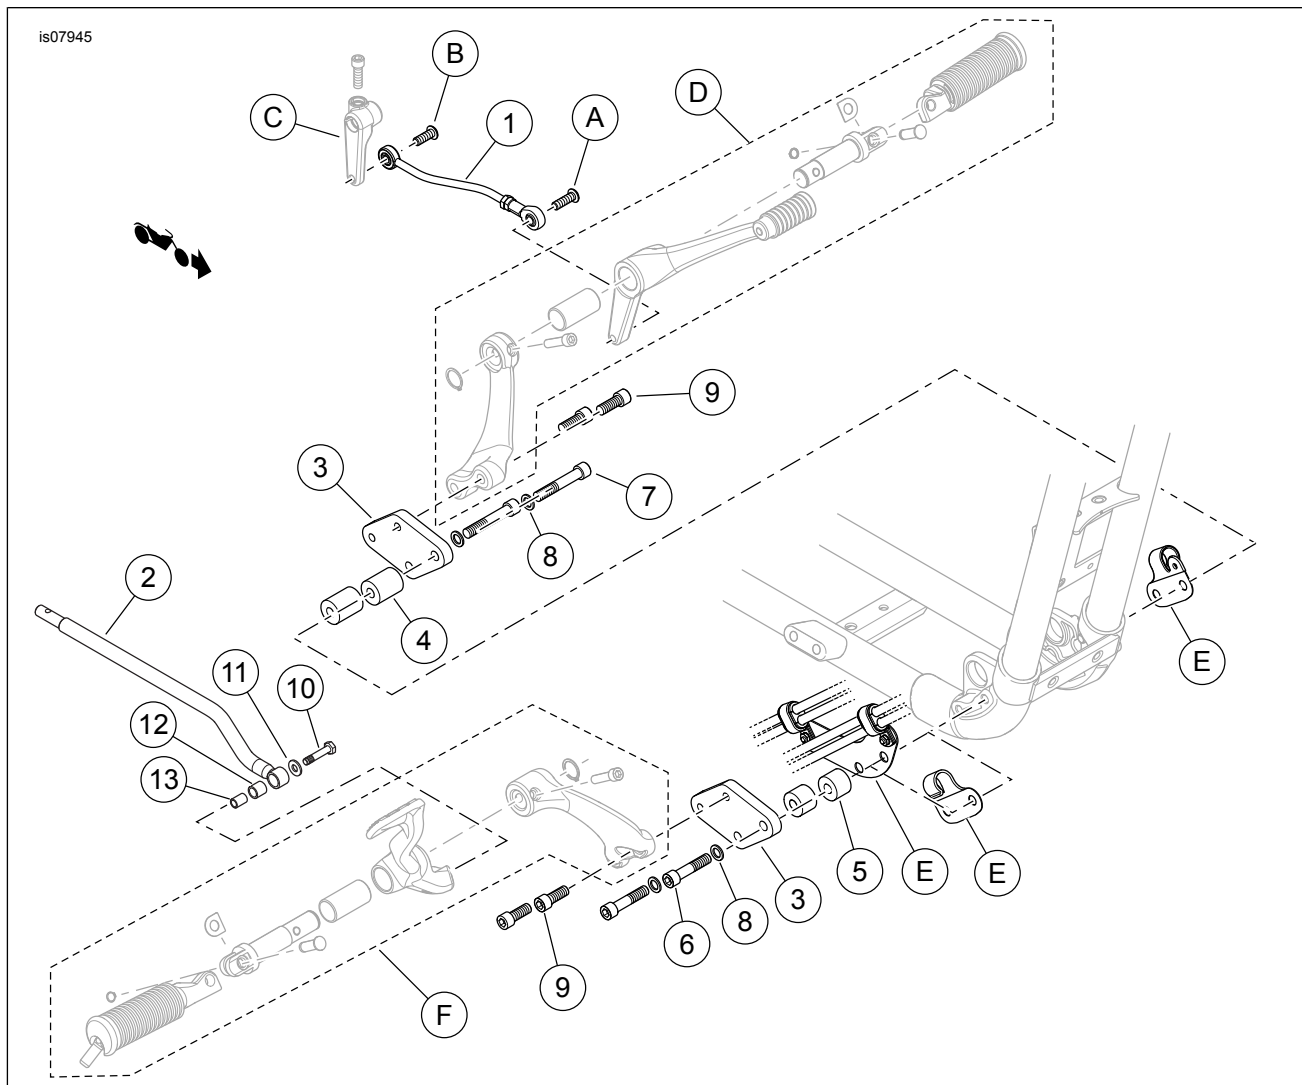

Figure 3. Service Parts, XL Forward Control Reduced Reach Conversion Kit
See Figure 3 and Table 1.
1. See Figure 3. Get a reduced reach bracket (3), two thick spacers (4), two 57.2 mm (2.25 in) long screws (7) and two larger washers (8) from the kit.
2. Install a washer onto each screw. Insert the screws with washers through the clearance holes in the reduced reach bracket (3) and spacers (4), and the J-clip (E) removed earlier.
3. Position the bracket/spacer/J-clip assembly at the original location of the foot shifter lever assembly (D). Install the assembly to the vehicle frame with the screws and washers. Tighten to 61–68 N·m (45–50 ft·lbs).
4. Install the foot shifter lever assembly (D) to the reduced reach bracket (3) with two screws (9) from the kit. Tighten to 61–68 N·m (45–50 ft-lbs).
5. Get the reduced reach shift linkage assembly (1) from the kit. Get the OE shifter rod screws (A, B) removed earlier. Clean all thread locking material from the screw threads. Apply two drops of Loctite 243 - Blue to the **clean** screw threads.
6. Position the linkage assembly as shown, with the solid end at the shift lever (C) threaded hole. Insert the shorter screw through the hole in the linkage. Thread the screw partially into the shift lever hole.
1. See Figure 3. Get a reduced reach bracket (3), two thin spacers (5), two 44.4 mm (1.75 in) long screws (6) and two larger washers (8) from the kit.
2. Install a washer onto each screw. Insert the screws with washers through the clearance holes in the reduced reach bracket (3) and spacers (5), and the J-clip or ABS line bracket (E) removed earlier.